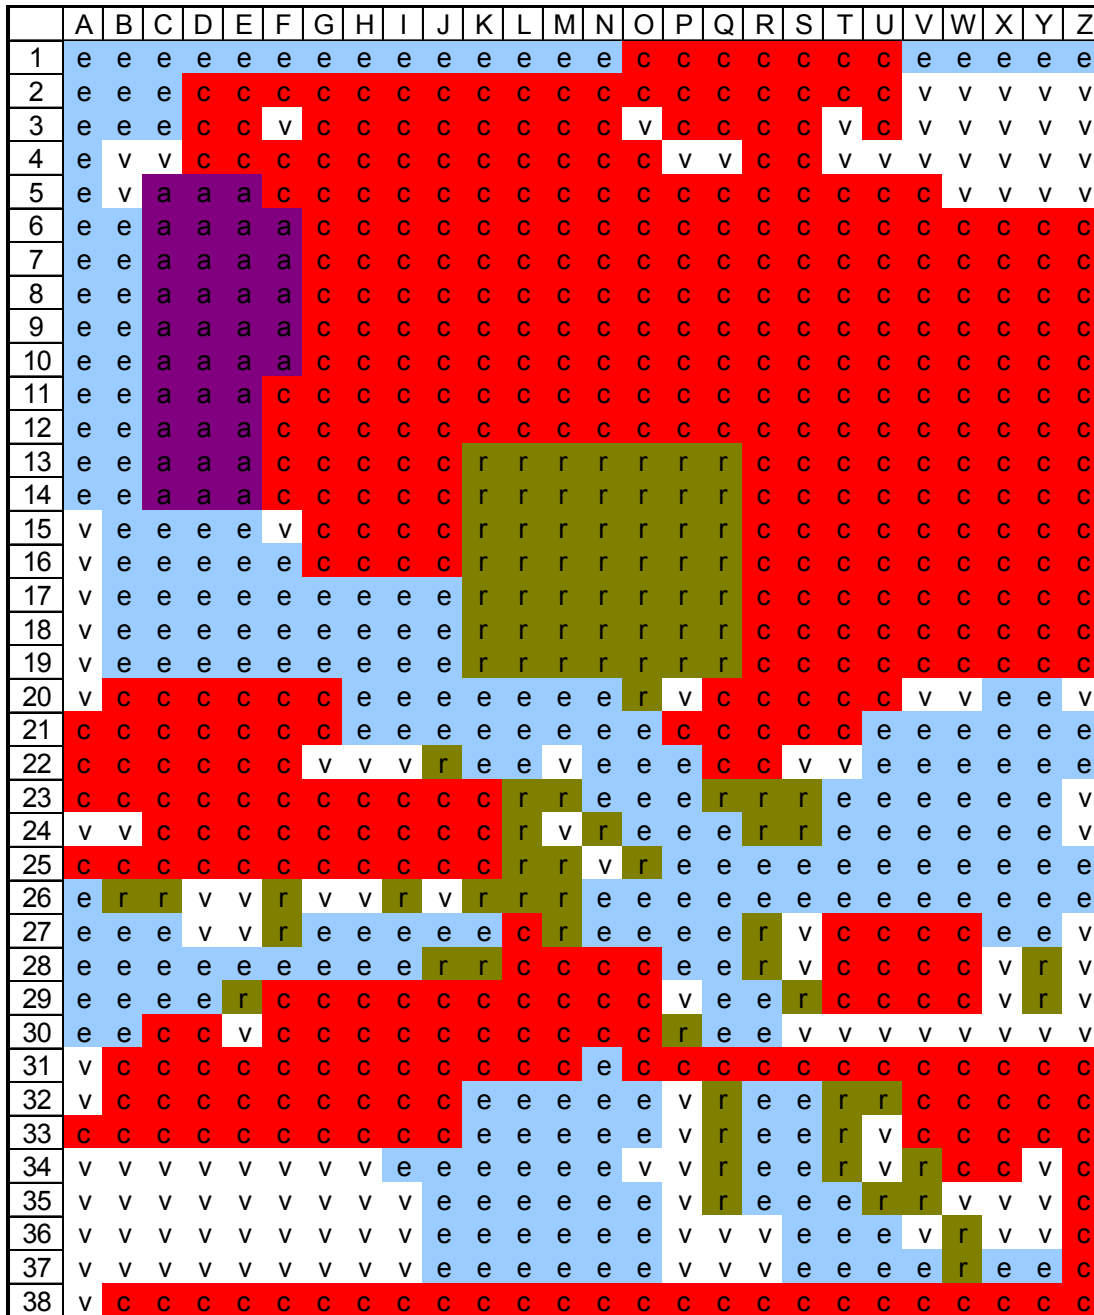

Figure 1: Color Coded Map of Land Uses
- *landuse* indicates one of five possible land uses for the cell (see Figure 1 which corresponds to the large maps you used for Activity 2)